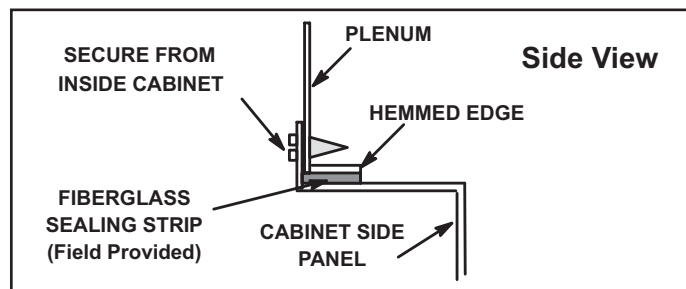

Figure 12.
4. In closet installations, it may be impossible to install sheet metal screws from the outside. In this case, make plenum with a removable front and install screws from the inside (see Figure 12).